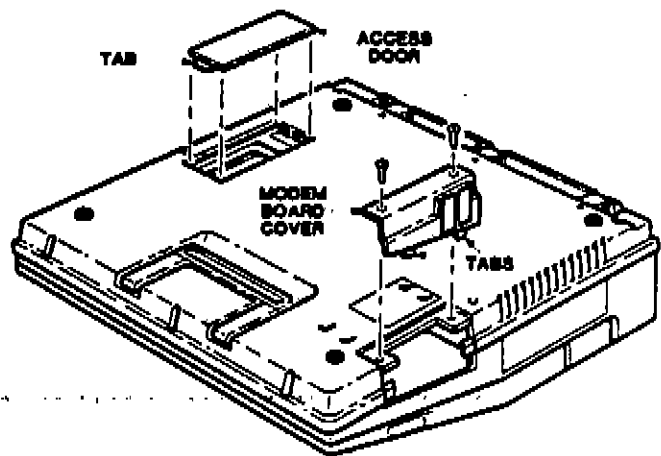

Figure 3-33. Removing the Access Door and the Modem Board Cover
Refer to Figure 3-33 for the following steps.
3. Remove the access door from the computer by lifting the door at the notch and pulling its tabs free, as shown in Figure 3-33.
3. Remove the two screws securing the modem board cover to the computer, as shown in Figure 3-33.